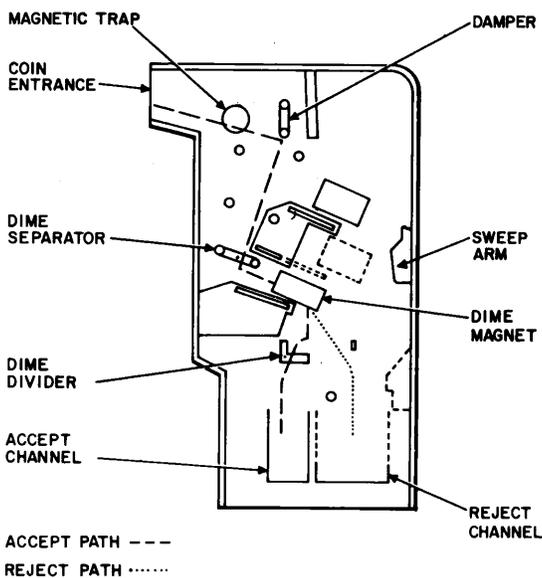

Fig. 3—Dime Path in a Typical Coin Chute
**2.03 Dime Operation—Valid Coin Accepted (Fig. 3):**
**2.04 Dime Operation—Coin Rejected (Fig. 3):**